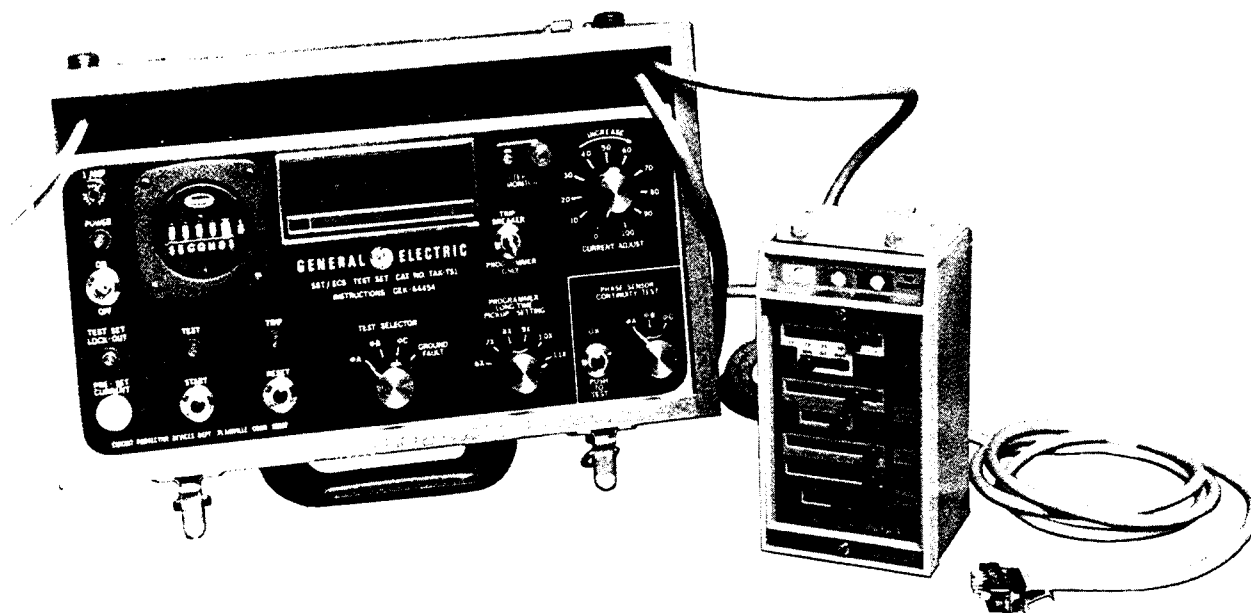

Fig. 21. SST/ECS test set, cat. no. TAK-TS1
2. Test the components of the SST system using portable Test Set Type TAK-TSI (Fig. 21). The applicable test procedures are detailed in Instruction Book GEK-64454 and are summarized on the next page.